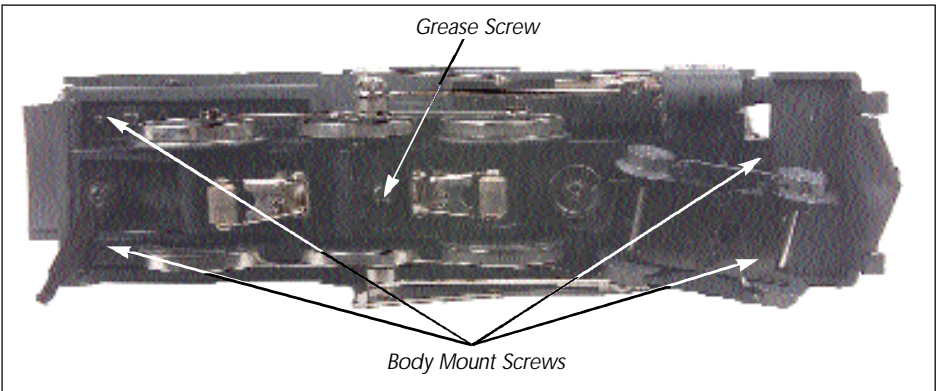

Figure 3 - Greasing points on the engine & location of body mount screws
1. Unscrew the Grease screw as shown in Figure 3 and use an applicator to apply grease into these screw holes.
Remove the locomotive boiler from its chassis as shown in figure 3 on page 9. Once the boiler has been removed, rotate the headlight bulb counter-clockwise as seen in figure 7 to remove.